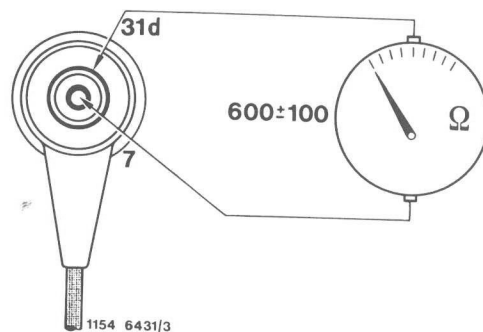

Fig. 76
1. Test armature resistance between terminal 7 and 31 d (Fig. 76).